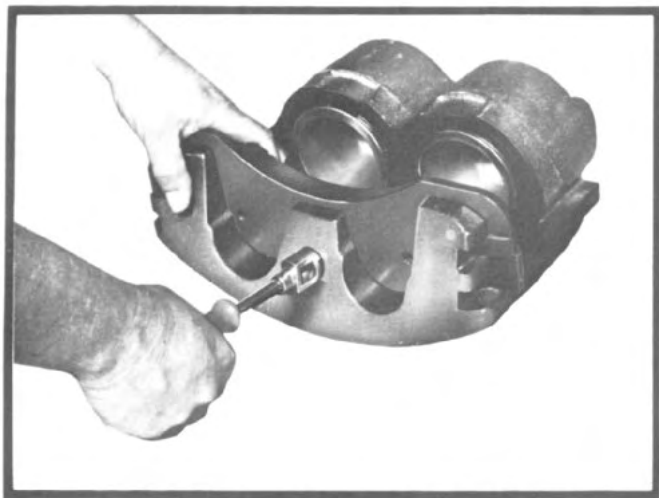

Fig. 24—Removing spring, pin and cup.
(2) Remove outer shoe and lining hold-down spring, pin and cup. (Fig. 24)